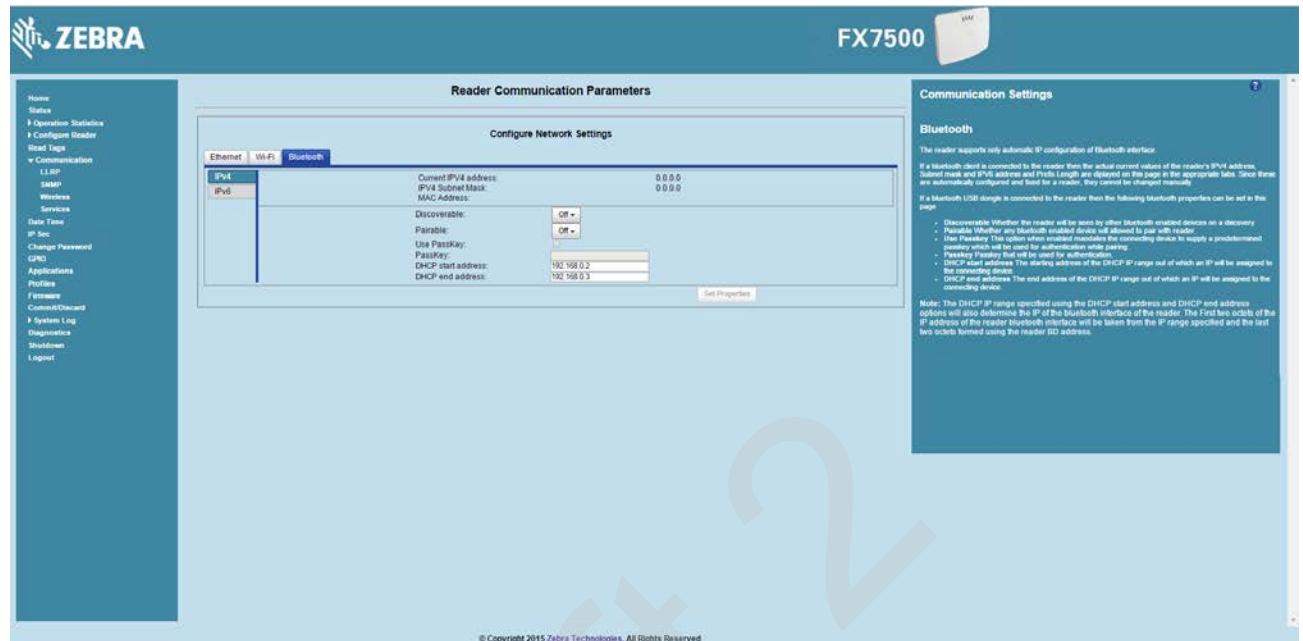

Figure D-12 Communication Bluetooth Tab
- Open the web page or sample application to connect to the Bluetooth IP (192.168.67.21 in Figure D-12) and read tags.